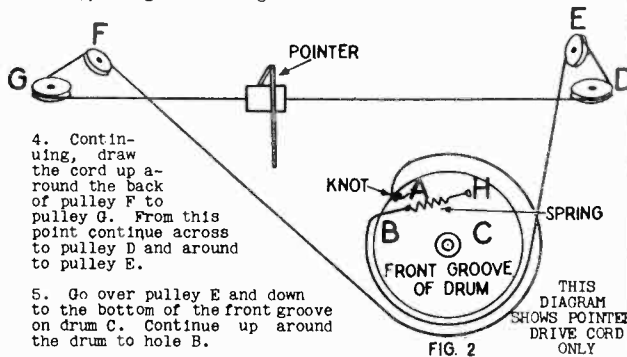

FIG 2
- Thread the free end of the cord through hole A in drum C (threading from the inside of the drum out) See Fig. 2.
2. Thread the free end of the cord through hole A in drum C (threading from the inside of the drum out) See Fig. 2.